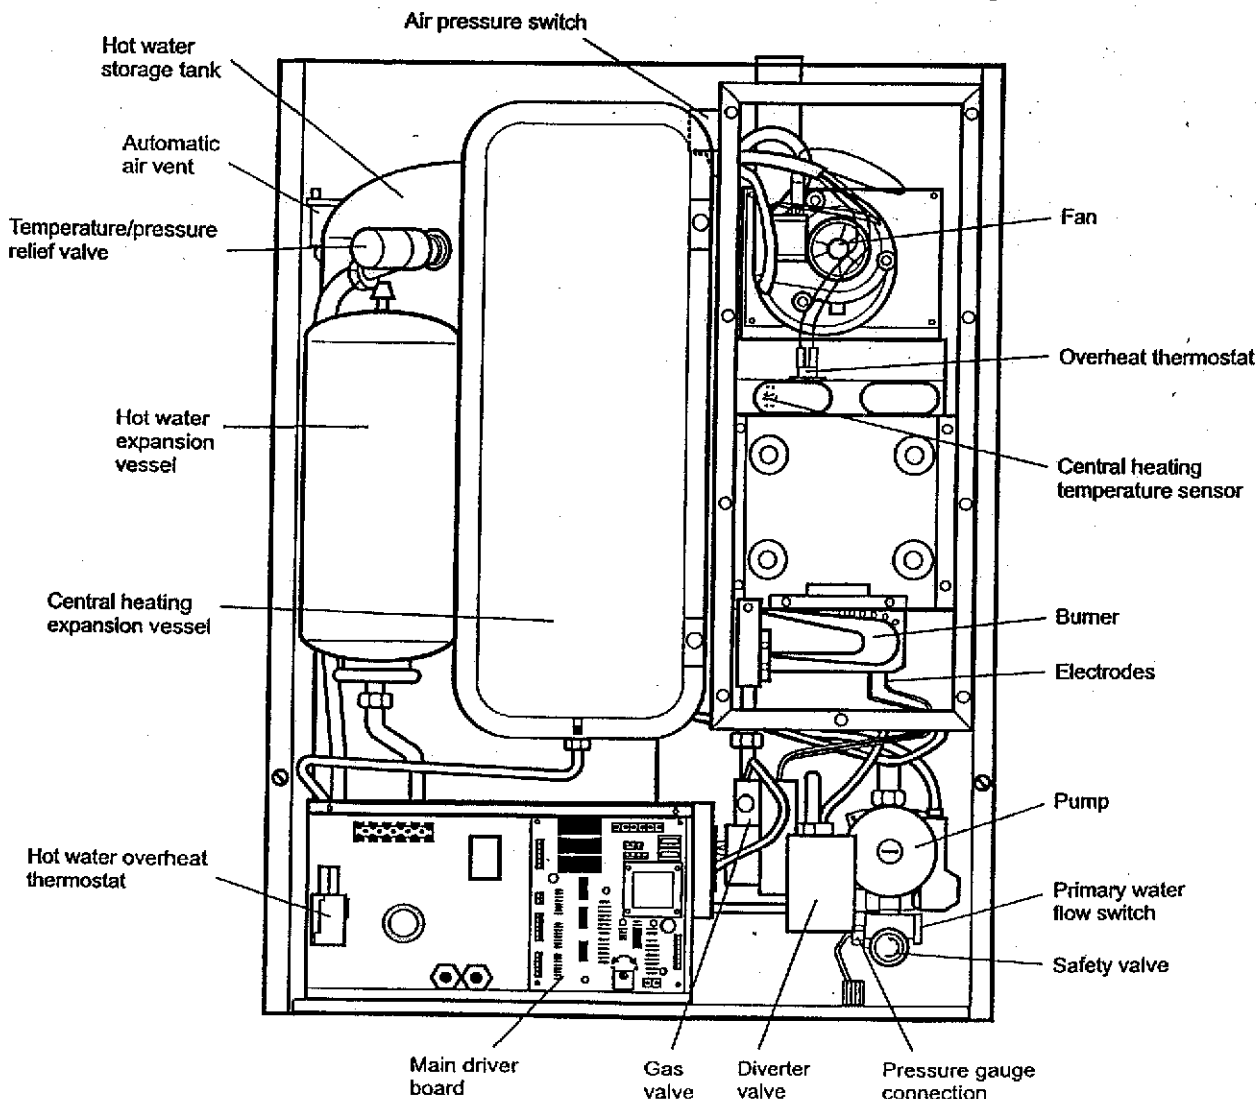

Fig. 18
- 3 Operate the safety valve (see Fig. 18) by turning the head anticlockwise until it clicks. This will release the pressure and allow water in the boiler to be drained direct to outside. Continue turning the valve head until water ceases to drain.
Refer to Fig. 18 for the position of the components.
The overheat thermostat is positioned on the front of the heat exchanger. See Fig. 18.